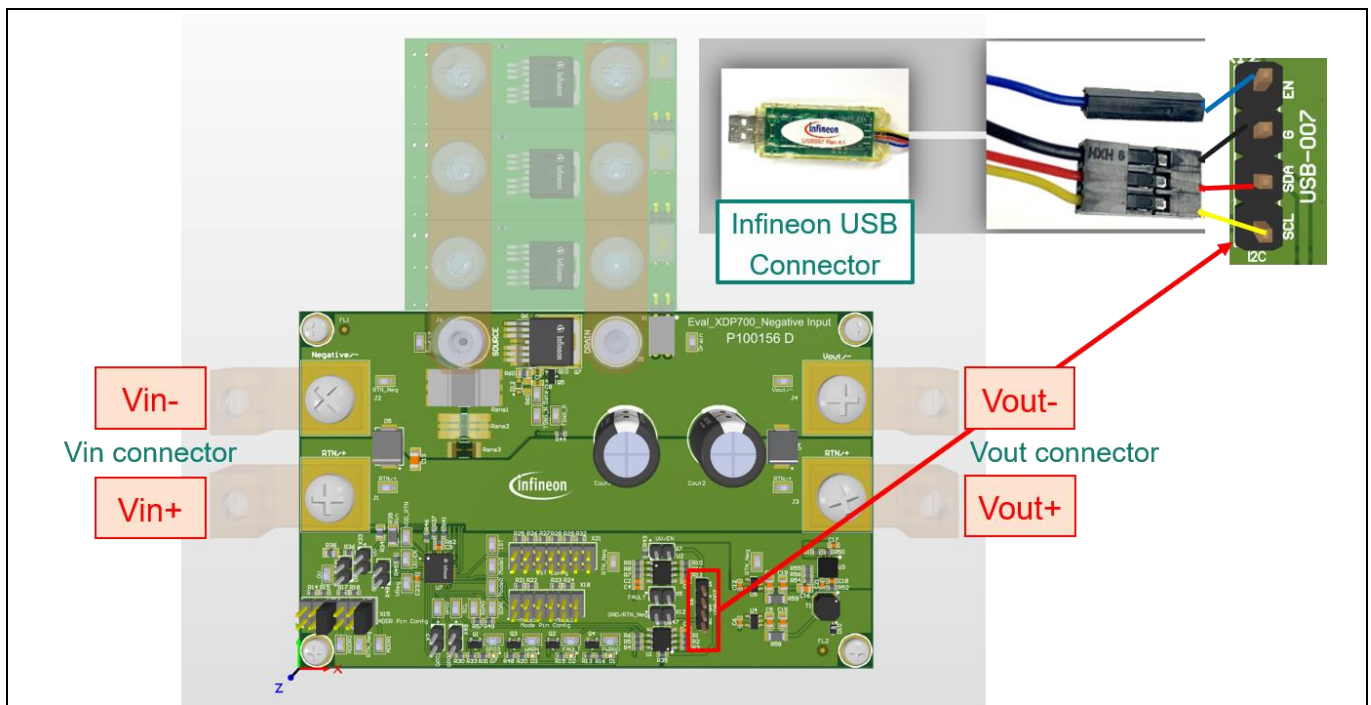

Figure 21 XDP700-002 Evaluation Board and dongle setup
1. Connect the USB007 dongle to the XDP700-002 Evaluation Board connector X6 as shown in Figure 21.